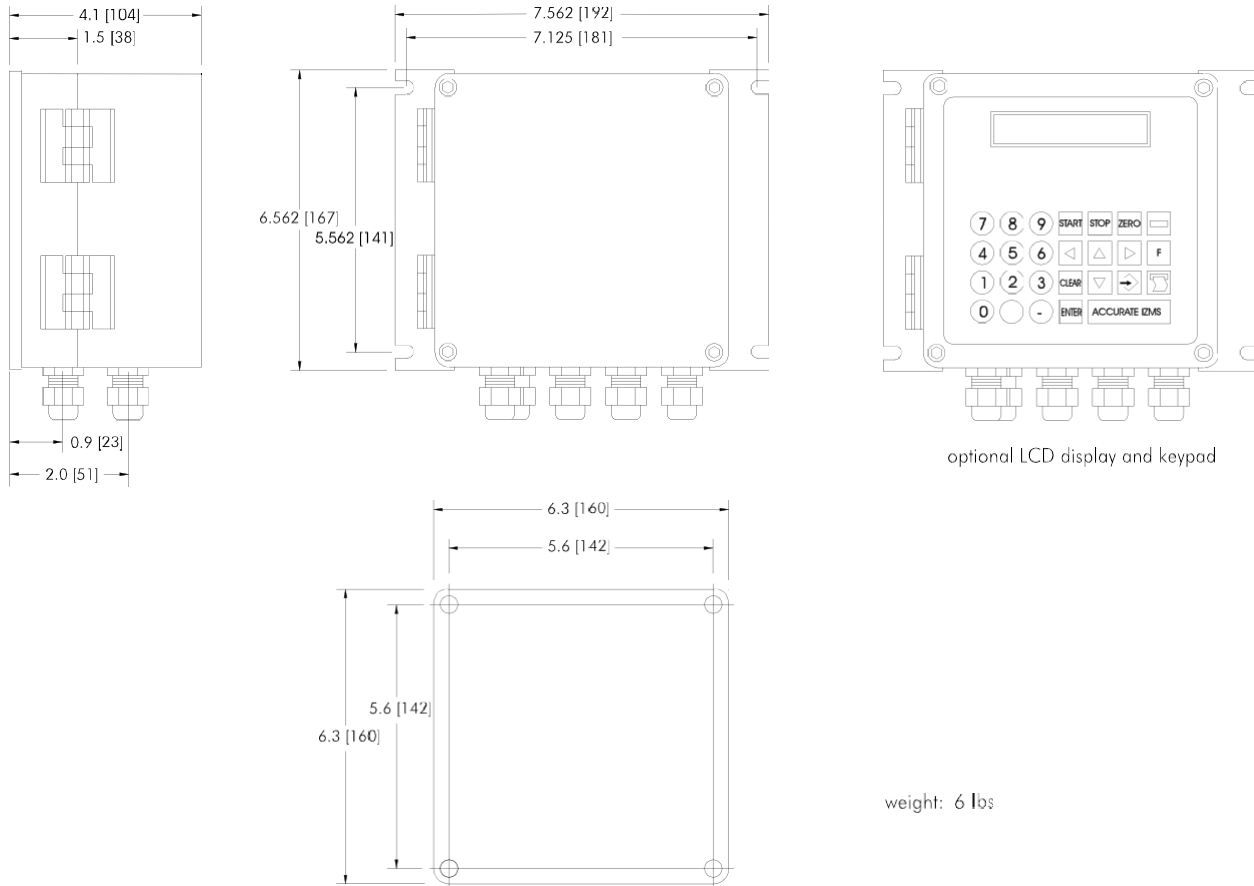

Figure 2-3. Converter Dimensions with/without Mounting Brackets
2. Make sure the converter has proper clearance to open the converter cover for installation and service (see Figure 2-3).